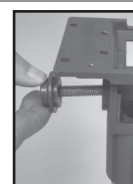

Fig. 6
6. Plug the female connector from load cell to the male socket on indicator. (Fig. 6)